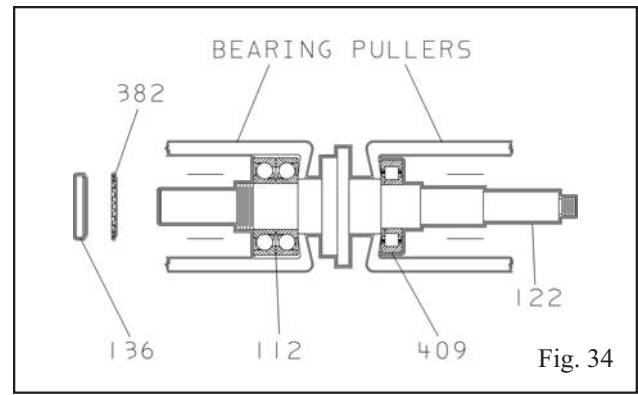

Fig. 34
10. Disengage thrust bearing lock washer (382) from locknut (136) and remove both from shaft (122) (Fig 34).
11. Remove bearings (112, 409) from shaft (122) using a suitable puller that only contacts inner races of bearings (Fig. 34).